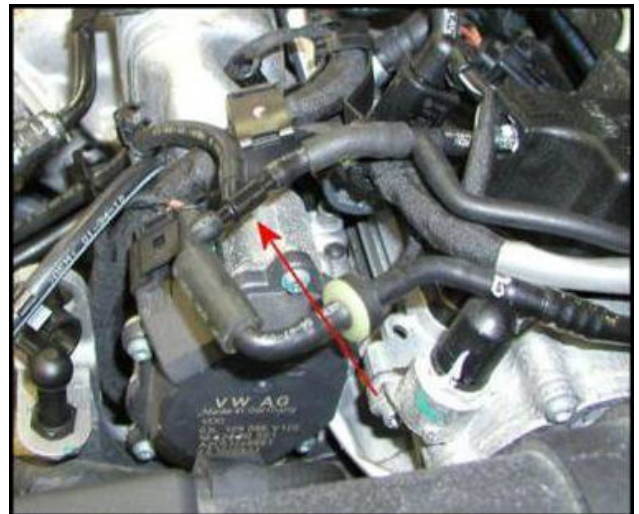

Figure 7: The red arrow indicates where to cut vacuum source hose and install splice.
16. Cut vacuum source hose where indicated (Figure 7) and install splice.